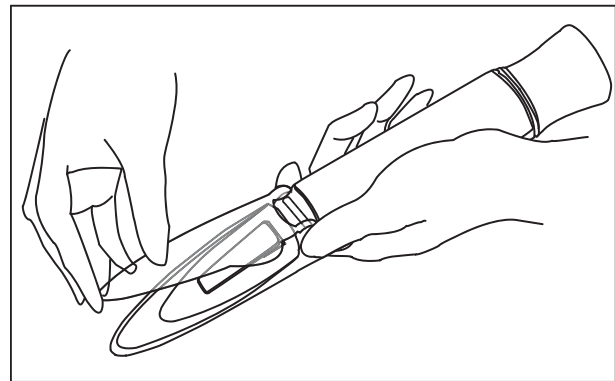

Fig. 6-5 Measuring procedure 2
2. Close the daylight plate gently. (Fig. 6-5)